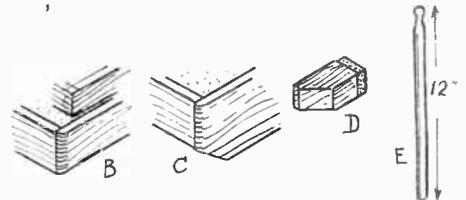

Fig. 3—Corner joints
Two rim pieces for covering the remainder of the sides will be required, 1  $\frac{1}{2}$  ins. wide. These extend from the bottom of the baseboard to the glued-on top piece. A similar strip is glued across the bottom, to complete rimming in the whole board. The corner edges of this are neatly rounded off, as in detail (B) in Fig. 3.